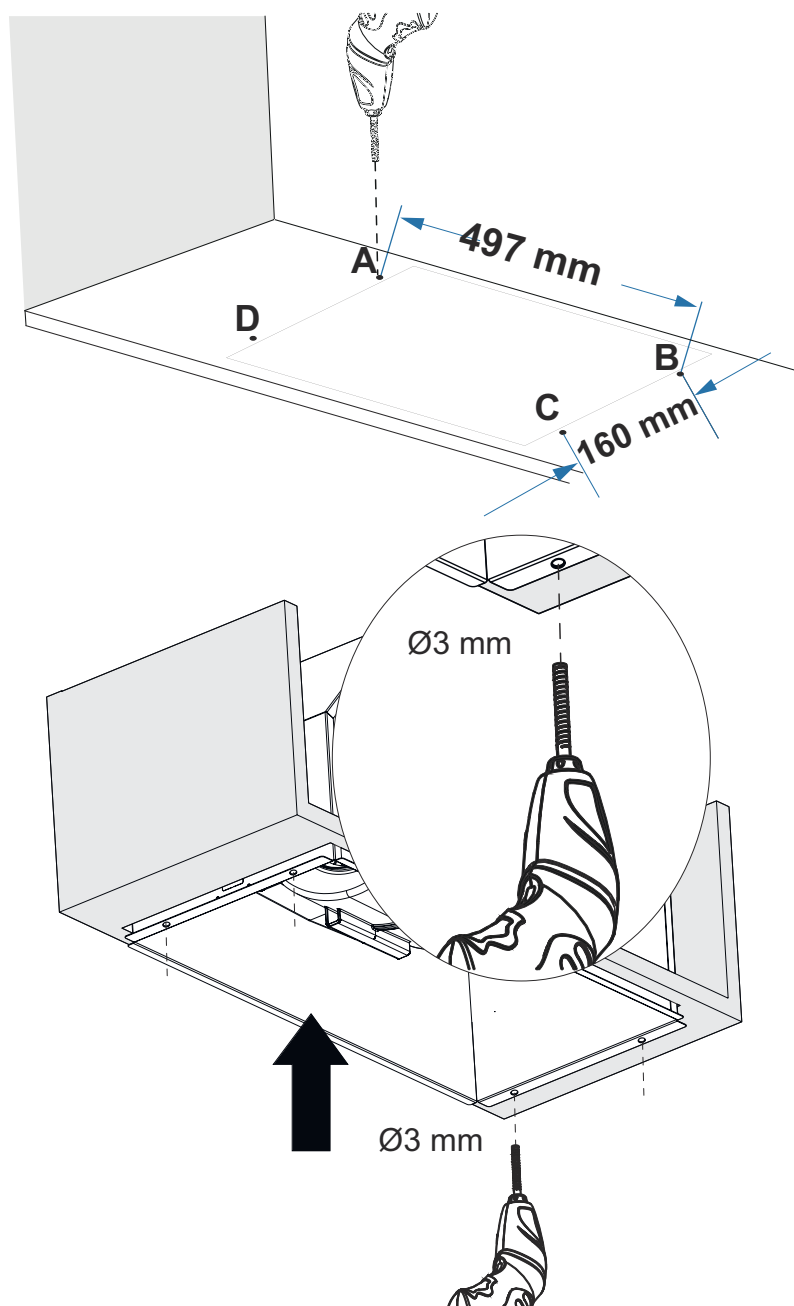

Fig. 16
5. After cutting out the area for installing the device, drill Ø3mm holes at the points marked A, B, C, D according to the dimensions given. (Fig. 16).